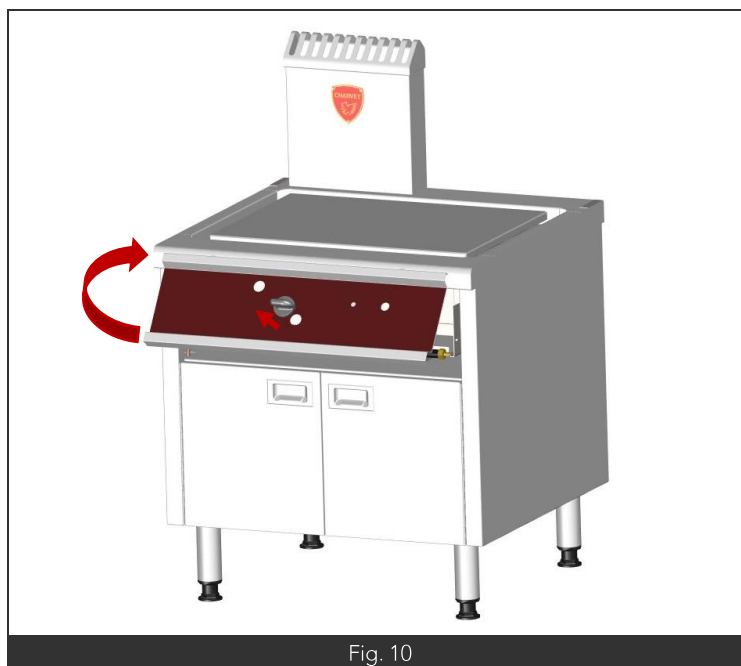

Fig. 10
- Remove the control panel (Fig. 10 paragraph 2).
- Remove the control cover (Fig. 10 paragraph 2)